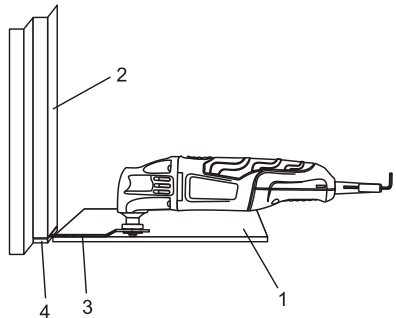

Fig. 6
2. Place a scrap piece of floor tile (1) on the floor about 1/2" (25 mm) from the door jamb (2) (Fig. 6).